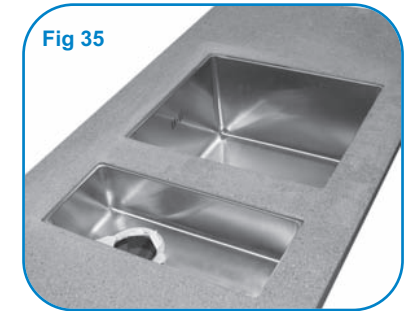

Fig 35
7. It is recommended to allow 24 hours before using the sink (fig 35).